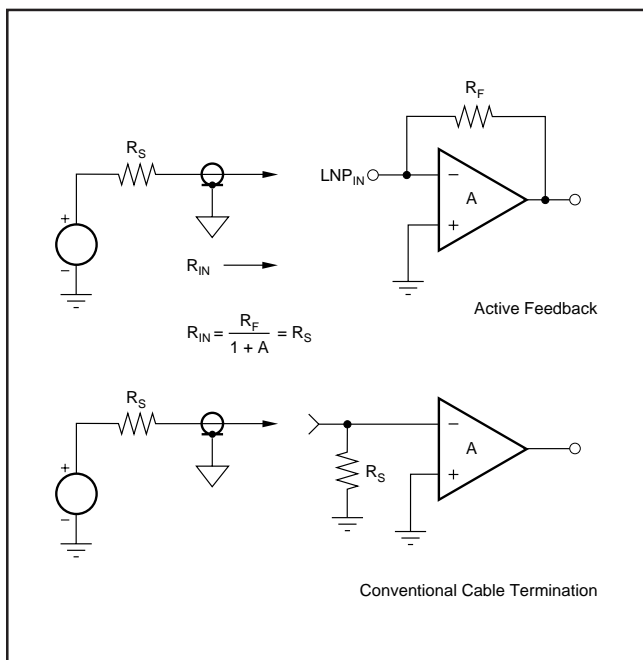

FIGURE 5. Configurations for Active Feedback and Conventional Cable Termination.
See Figure 5 for an amplifier using active feedback. This diagram appears very similar to a traditional inverting amplifier. However, the analysis is somewhat different because the gain  $A$  in this case is not a very large open-loop op amp gain; rather, it is the relatively low and controlled gain of the LNP itself. Thus, the impedance at the inverting amplifier terminal will be reduced by a finite amount, as given in the familiar relationship of Equation (3):